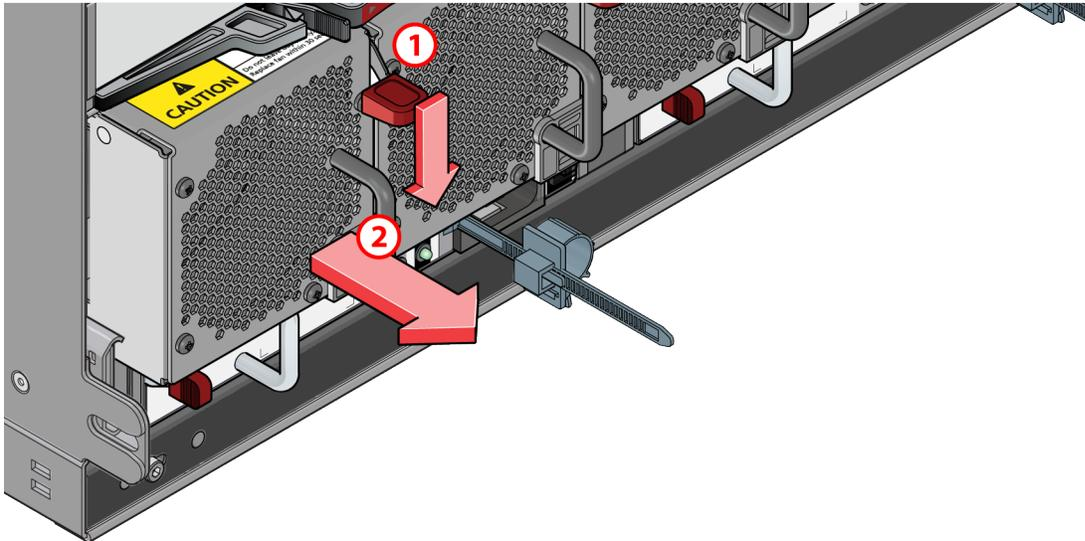
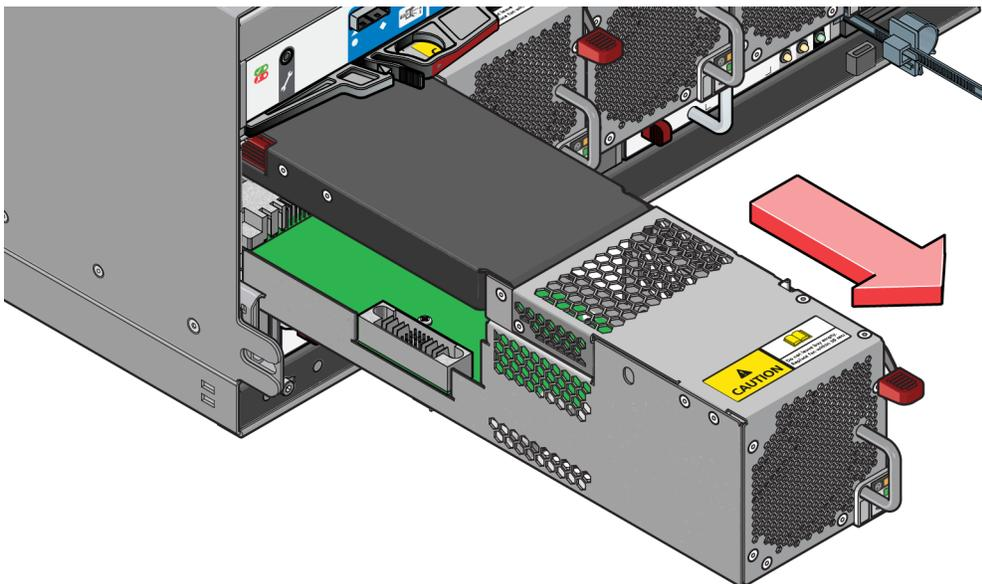

Figure 96. Removing a Cooling Module (1)
Figure 97. Removing a Cooling Module (2)
2. As shown in Figure 96 “Removing a Cooling Module \(1\)” on page 90 and Figure 97 “Removing a Cooling Module \(2\)” on page 90, push down and hold the black release latch (1) and pull out the module by its handle (2).